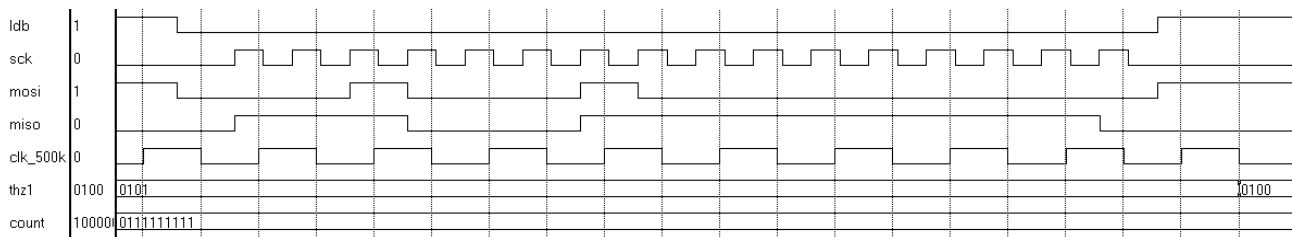

Figure 8: Example of a correct data transmission, command h2200
The adjusted parameter is valid with the first falling edge of the internal oscillator (CLK_500K) after LDB is 'HIGH'. In the example of figure 8 THZ1 is set to 4 LSB.
In the example of figure 8 the received bits are: 1110001111111110 (with default parameters). This means the E90901 is in **active mode** (internal PROX, here: high active !), the states MOVEDO and PRETO are low active and TOUCH, WIPE are high active. The integrator value is COUNT="0111111111"(511) and the LSB: TMODE (high active) indicates that the E90901 is not in **test-mode**.